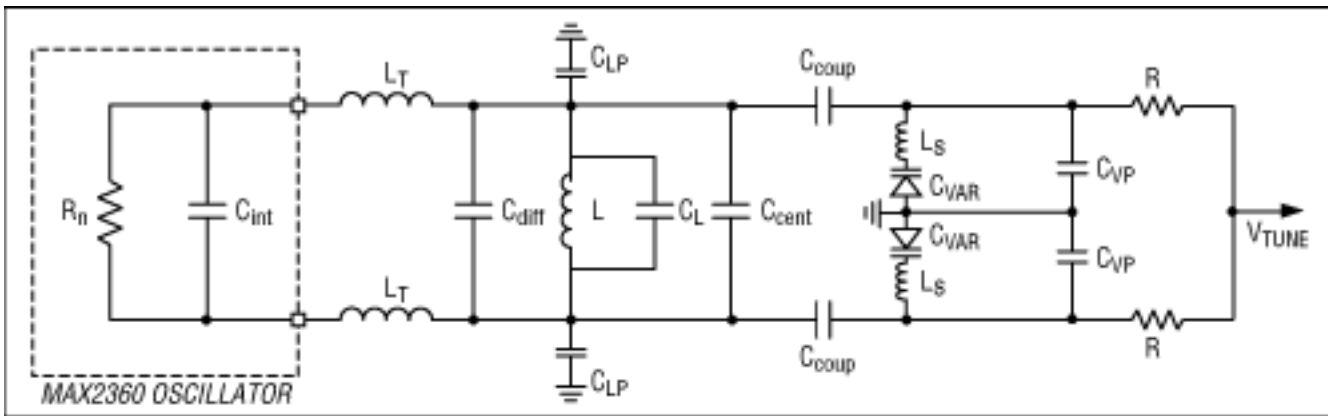

Figure 4. Detailed VCO model.
**Figure 4** depicts the detailed VCO model. It takes into account the capacitance of the pads but does not include the effects of series inductance for simplicity. Cstray is defined as: